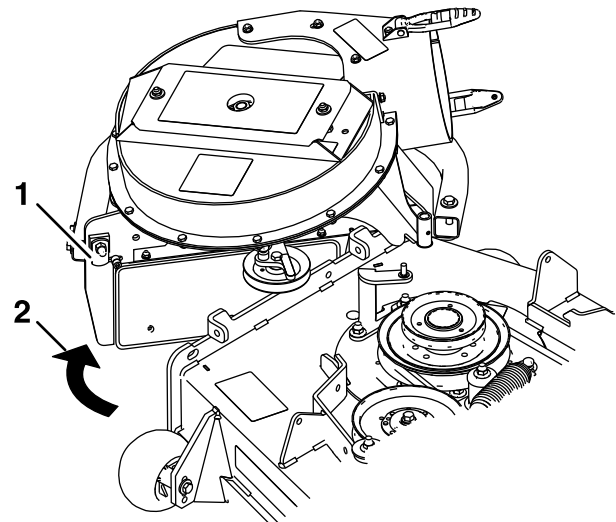

Figure 27
9. Unlatch the front end of the blower, pivot the blower back, and lift it off the deck (Figure 27).